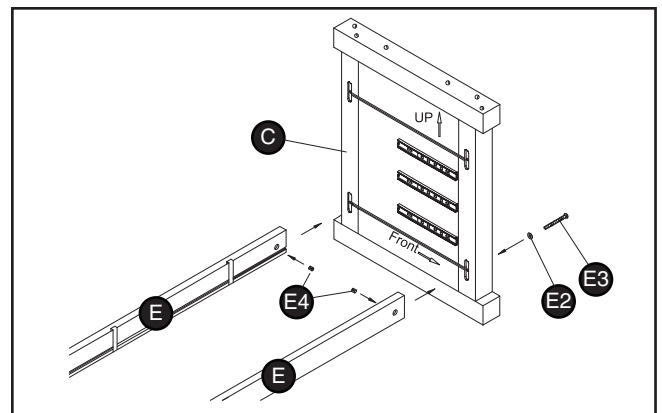

Figure 12. Right leg and cross brace installation.
1. Position the right side leg (C) on the floor so the UP arrow is pointing upward and the FRONT arrow points to the front, as shown in Figure 12.
2. Place the two lower cross braces (E) on the floor so the slots face each other, as shown in Figure 12.
3. Insert the barrel nuts (E4) (Figure 12) into the ends of the cross braces so the slotted end faces outward and the screwdriver slots are aligned horizontally with the direction of the cross braces.
4. Insert the cross braces into the mortised holes into the right-side leg, as shown in Figure 12.
- Place a flat washer (E2) on each barrel bolt (E3), and insert the bolts through the right-side leg (Figure 12).
- Using a 5mm hex wrench, thread the bolts into the barrel nuts (E4) (Figure 12), but do not fully tighten at this time.